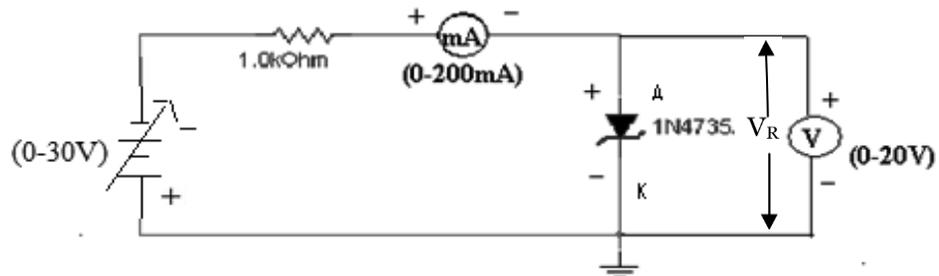

Figure 4.3: Zener diode in reverse bias
8. Connect the circuit as shown in figure 4.3